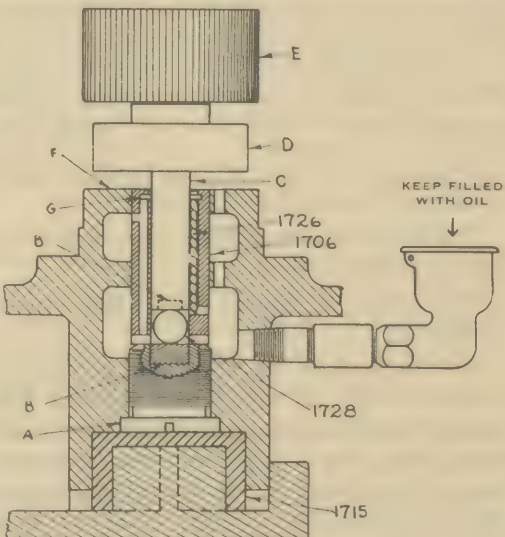
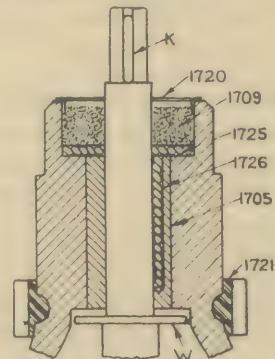

Fig. 4
Fig. 3
(c) **Brush-Release and Brake.** The Size 1, Type SB and the Size 2 Centrifuges are supplied with a brake band, D (Figs. 4, 6), below the commutator and a "brush release" mechanism operated by the same handle as the brake. (The purpose of the "brush release" is to remove the spring tension from the motor brushes, thus allowing the centrifuge tubes to stop more gradually.) It is necessary for the operator to make sure that the "brush release" is not operating when the current is on. If it is, there will be undue sparking, or the motor may not start. It is well, therefore, to make a practice of returning the handle to brush pressure position every time the "brush release" has been used.
(g) The Size 1, Type SB Centrifuge was designed so that to a very practicable extent it would be self-balancing. This is provided for by installing the motor flexibly in the base, the motor bracket resting in a soft rubber socket, No. 1715 (Fig. 4), and the housing of the upper bearing being supported flexibly by a molded rubber cushion ring, No. 1721 (Fig. 3).
To get at the upper bearing for renewal, first remove the head from the shaft [See above. "General Considerations" (1) (b) (Note)]. Remove cover, No. 1720 (Fig. 3), clean out the grease cup removing the felt washer, No. 1725 (Fig. 3). Remove enclosing case, secured
by three cap screws through the top of the base. Remove the four screws from the flange of the top cap containing the bearing and take off the cap. Place cap on smooth bench or wood block, and push or drive out the bronze bushing No. 1705 (Fig. 3), and replace new bushing, using hard wood dowel of approximately the same diameter of the bushing instead of metal to avoid upsetting metal of the bushing. It is important to see that bushing is right end up. The open end of wick hole should be at the top. See that the round wick, No. 1726 (Fig. 3), is in its place extending throughout the length of the hole and flush with the upper face of the bushing, so as to be in contact with the felt washer, No. 1725.
*Be sure the washer, W (Fig. 3), is in place when reassembling.*
Return felt washer, No. 1725 (Fig. 3), and refill cup with lubricant, No. 1709.
Remove head from centrifuge shaft [See "General Considerations" (1) (b) (Note)]. Remove enclosing case, secured by three cap screws through the top of the base. Remove cover, No. 1720 (Fig. 3), and clean out grease cup, removing felt washer, No. 1725. Remove cover of terminal box, and the connection plate. Disconnect, one by one, the wires, withdrawing them from the terminal block, *and suitably tagging each as it is taken out.* The motor may now be lifted out of its rubber lined socket at the tripod base, and taken to the work bench. Remove armature, D, E (Fig. 4), and steel ball, No. 1728 (Fig. 4) from lower bearing. Remove screw plug, A, (Fig. 4) from cast iron bracket at bottom. [See "Repairs (1) (b) (Note)".] Disconnect the lead wires at the brush where there are two, one at a time, returning the screws so as to keep the insulation in place, then disconnect the lead wire at the other brush. Remove the carbon brushes. Do not loosen or change the position of the brush holder ring. Remove lower end bracket secured by four cap screws, marking the parts so as to ensure replacement in same position. Rest the machined flange of the inverted bracket on smooth wood bench or blocking and drive out the bushing, No. 1706 (Fig. 4), of the lower bearing (using hard wood dowel, instead of metal rod. The dowel should be approximately the diameter of the bushing and flat on the end.) Reverse the bracket and drive in the new bushing from the inside, using the same precautions. The bushing should go in so that its end face is flush with the finished surface of the bracket, F (Fig. 4). It is important to see that bushing is right end up. The concentric grooved end should be at the top. See that the wick, No. 1726, comes only up to the lower edge of the concentric groove near the top of the bearing, G (Fig. 4).
*Be sure that the washer, W (Fig. 3), is in place when reassembling.*